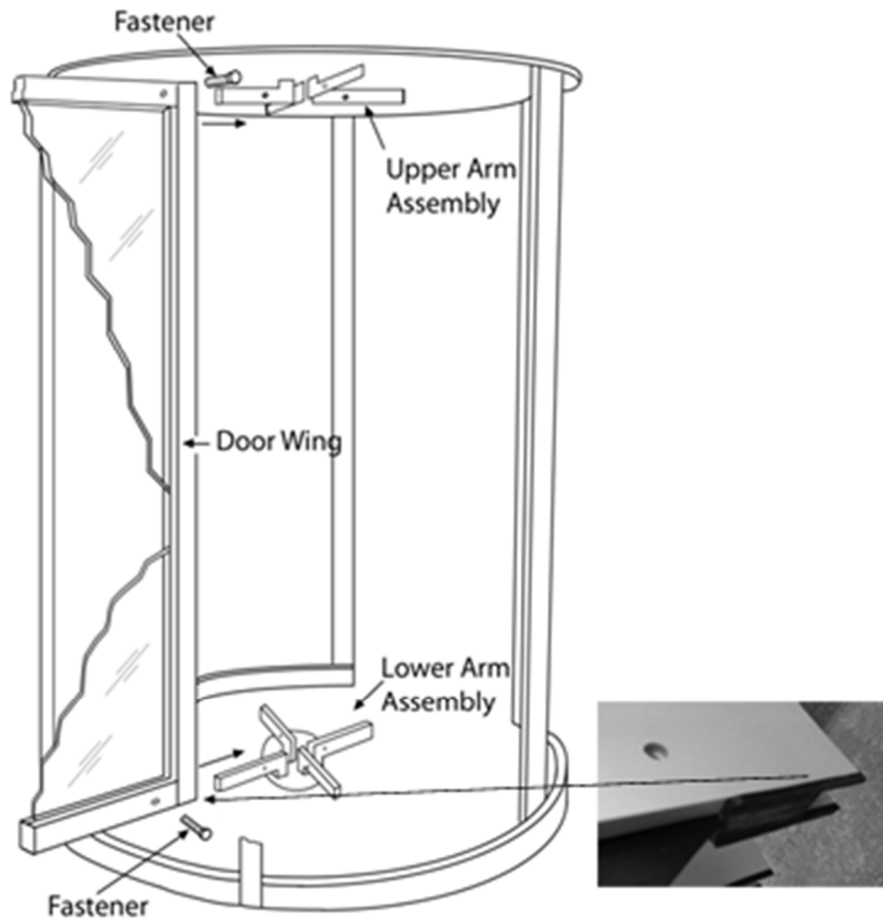

Figure 6.1
- 1) Install rubber boots on top and bottom of door wings (see Figure 6.1).
- 3) Slide door wings onto upper and lower arm assembly and fasten in place with screws provided as shown in Figure 6.1.